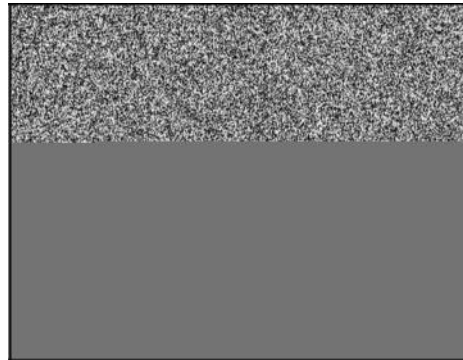

Figure 53
2. Hook governor spring (**B**, Figure 53) in throttle lever hole without grommet. Hook governor link (**A**) in throttle lever hole with grommet.